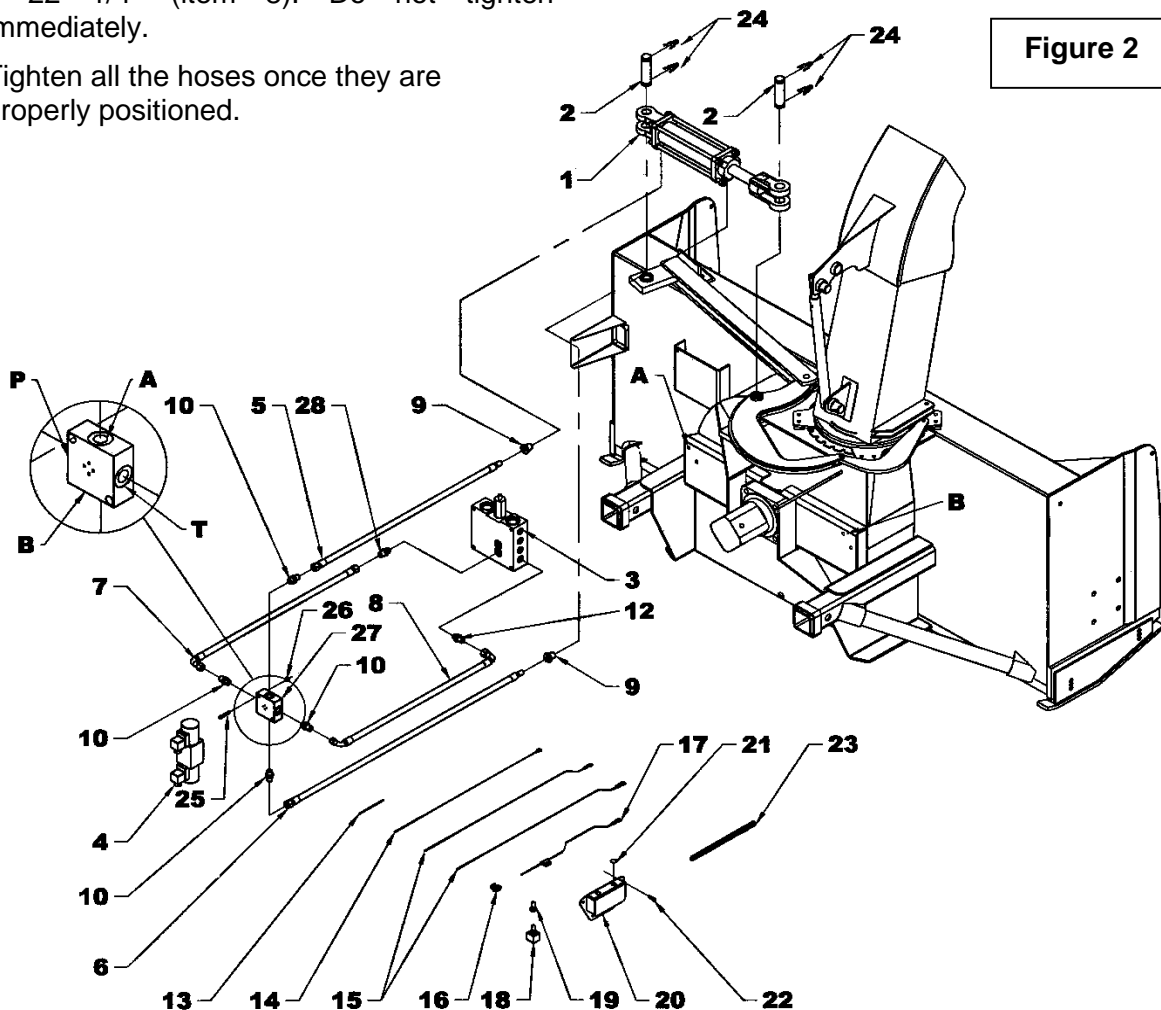

Figure 2
Refer to figure 2 unless otherwise indicated)
14. Remove the switch's lockwasher and insert the switch (item 18) inside the switchbox. Set in place with the nut. Install the plastic cap (item 21) on the other switchbox hole if required and place the rubber cap (item 19) on the switch. Bring the wires toward the snowblower.
15. Remove the valve's (Fig. 2, item 4) connection case "A" (Fig. 1, item 3) of) by completely removing the front screw (Fig. 1, item 4) and remove the bottom plug (Fig. 1, item 5). Using a small screwdriver, remove the connection block (Fig. 1, item 6) by inserting the screwdriver in the plug hole (Fig. 1, item 5) and pushing lightly on the connection block. Insert a 360" white wire (Fig. 2, item 16) in the hole identified #1 (Fig. 1, item 1) and a black 9" wire (Fig. 2, item 13) in the hole identified #2 (Fig. 1, item 2) and run the wires through the case plug (Fig.1, follow the ghost lines).
17. Put the case back on the valve (Fig. 2, item 4) and fasten with the screw (Fig. 1, item 4). Reinstall the plug (Fig. 1, item 5).
18. Remove connection case "B" and insert a 360" white wire (Fig. 2, item 15) in the hole identified #1 (Fig. 1, item 1). Insert the end of the 9" black wire (Fig. 2, item 13) connected to case "A" as well as the black 360" wire (Fig. 2, item 14) in the hole identified #2 (Fig. 1, item 2) and run the wires through the case plug (Fig.1, follow the ghost lines). Reinstall the block in the case so the wires point down to avoid water infiltrations.
20. Bring the 360" black wire (Fig. 2, item 14) to the switchbox (item 18) through the same course used to bring the white wires (item 15) from the tractor to the snowblower and fasten the eye terminal to the switchbox using the fourth #10 x 1/2" self-drilling screw (Fig. 2, item 22).
21. Connect the fuse wire (Fig. 2, item 20) to the tractor's ignition switch wire using the tap connector (Fig. 2, item 17).
22. Place a loom (item 23) around all wires to protect them.